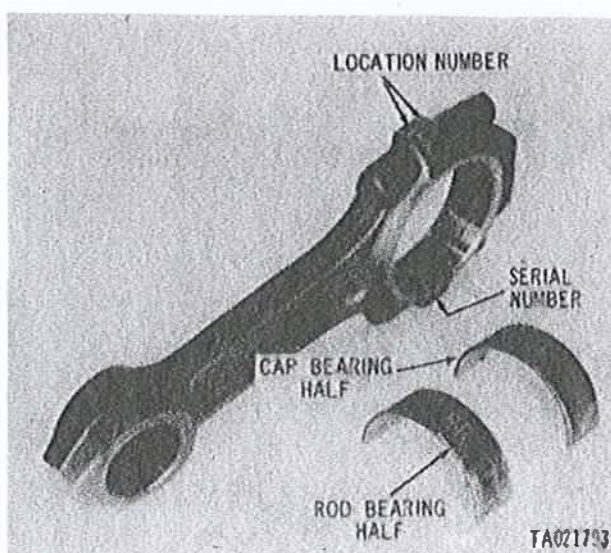

Figure 3-170. Connecting rod and bearing location number.
For location identification, connecting rods and caps are stamped with a location number (fig. 3-170) on the side of one of the bosses. For example, "1R" would identify connecting rod and cap for No. 1 cylinder on the right bank. Mark the bearings with a grease pencil or suitable marker to indicate their locations; for example, the connecting rod bearing half for cylinder "1R" should be marked "1RR" and the bearing cap half for the same cylinder should be marked "1RC". If subsequent inspection indicates the bearings are reuseable, they must be reassembled in their original positions. If the connecting rod or cap markings are obliterated, restamp connecting rods and caps so that they can be installed in their original positions. In addition, the
(1) **Bearings.** Inspect connecting rod bearing halves (fig. 3-170) in the same manner as described for main sleeve bearings (para 3-45c). Apply a thin coating of Prussian blue, Part No. MIL-P-30501, to the backs of the connecting rod bearings and install in their respective connecting rods and caps according to the location markings (fig. 3-170). Assemble rod and cap, and torque tighten to 1250-1300 pound-inches. Check bearing inside diameter, using a dial bore indicator as shown in figure 3-173, against the limits specified in the repair standards (table 3-8), and for contact as shown by Prussian blue, transfer in the same manner in which the main sleeve bearings were checked (para 3-45d). Replace any bearing that does not make at least 75 percent contact.